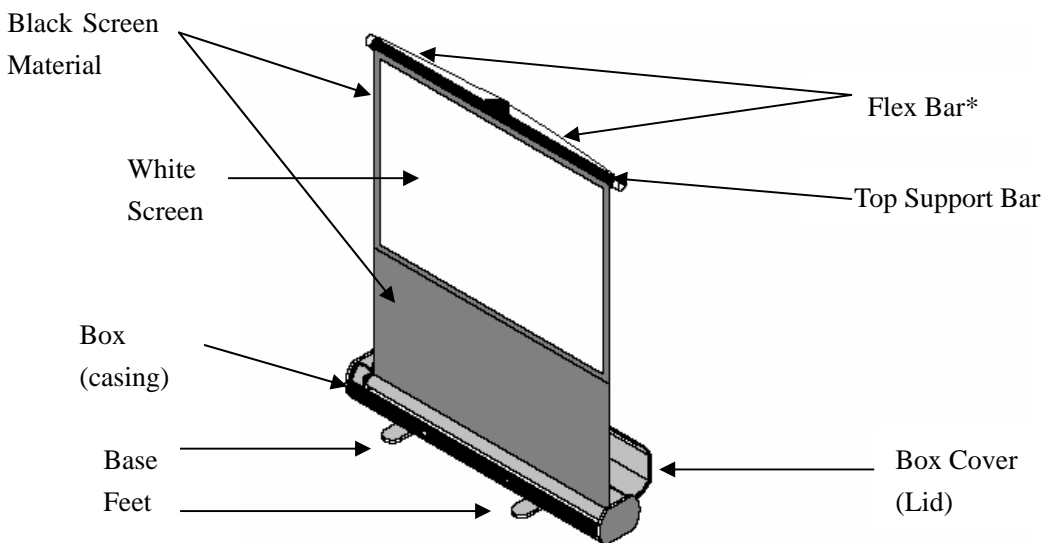

Fig. 3
****Note: The Flex Bar is a feature designed to evenly distribute the tension of the screen out to the sides. The Flex Bar is designed to “bow” out from the Top Support Bar. It may bow out a few inches depending on the size of the screen. (Fig.3)***